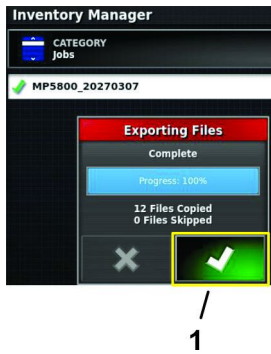

Figure 92
10. In the exporting files dialog box, press the confirm icon (Figure 92).